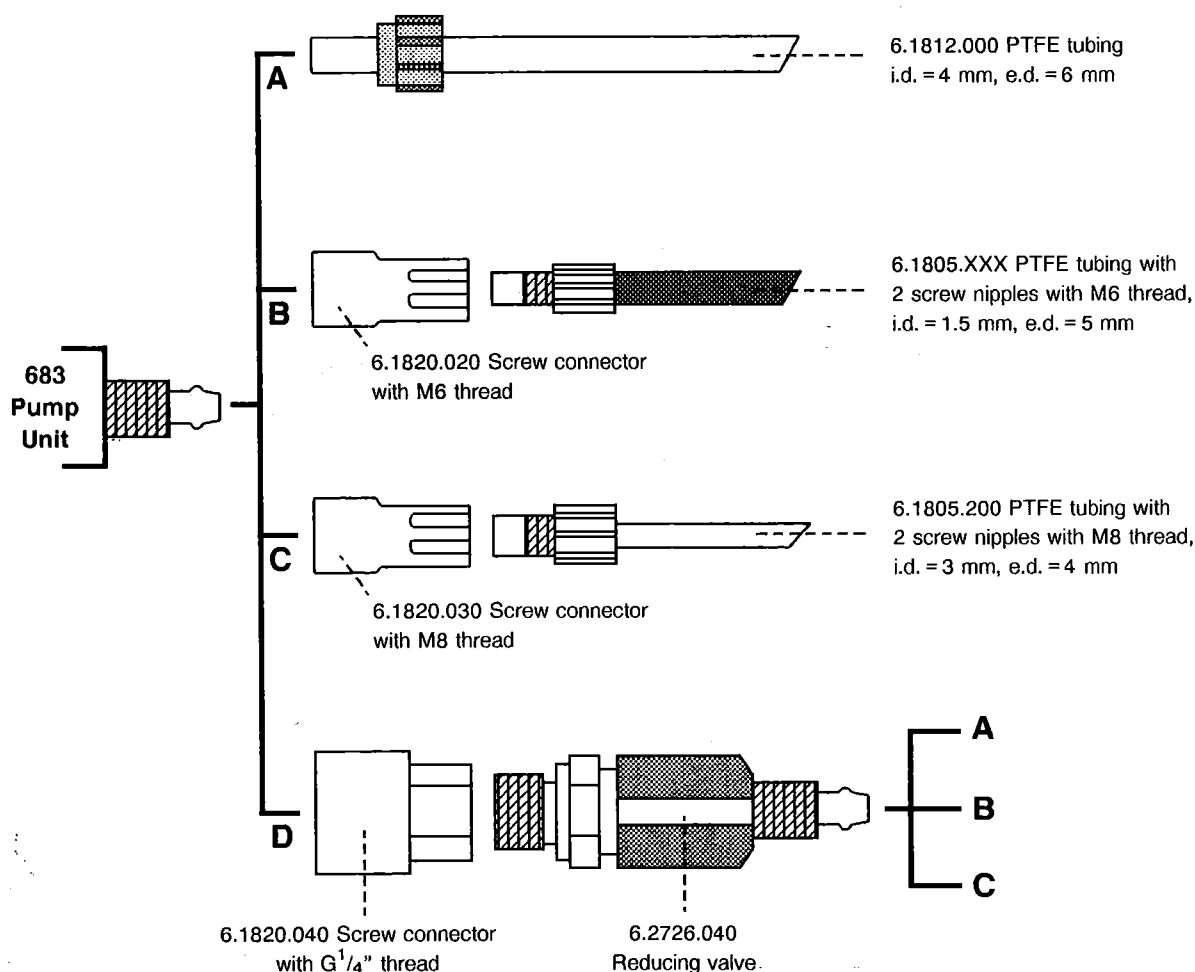

Fig. 3: Connection possibilities at the 683 Pump Unit
Fig. 3 shows the connection possibilities at the connection nipples (6) and (10) of the 683 Pump Unit.